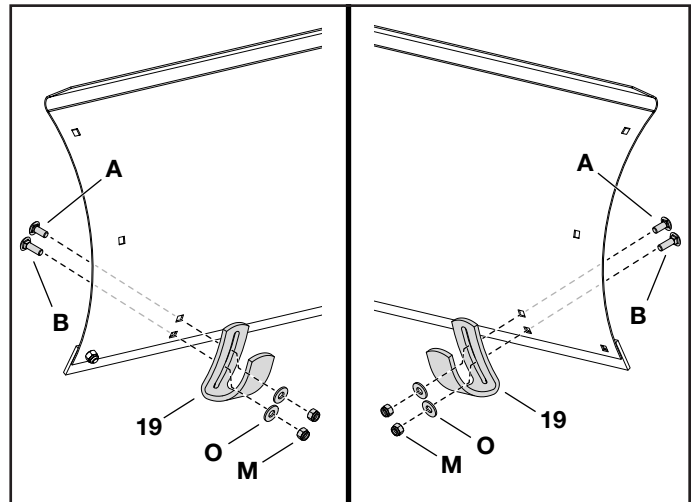

FIGURE 15
STEP 15: (SEE FIGURE 15)
- Place a skid shoe (19) against the back of the blade on one end of the blade assembly (18) and secure with two washers (O), two carriage bolts (B), and two hex nuts (M). Tighten hardware.